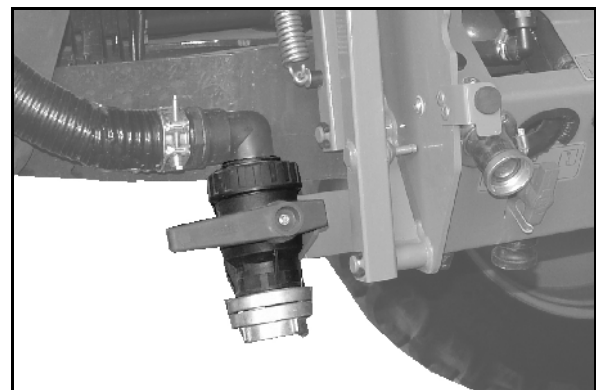

Fig. 66
- Filling connection with switch tap (Fig. 66).